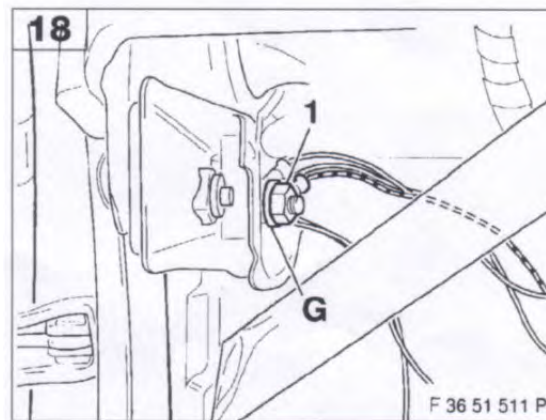

Figure 27 – Ground Connection G
- 7.4.1 Route ground wire with ring connector to the grounding point under the driver's side dash against the wall (See **Figure 27**).